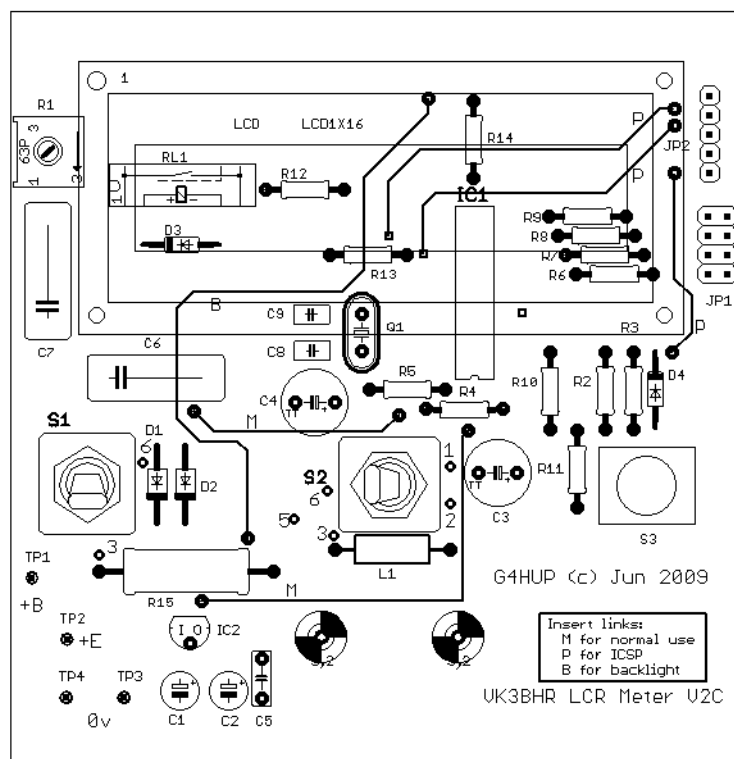

Fig 1 – Position of bridges.
Minimal preparation is required, but there are a couple of bridges that need to be installed on the PCB before component assembly commences. Fig 1 shows graphically which vias on the PCB must be connected for the LC meter to function correctly, and also identifies the connections that are needed if the ICSP circuitry is implemented – note the extra components for ICSP are not provided with the kit.
- 1 make sure that you have inserted the two essential PCB bridges marked M in Fig 1